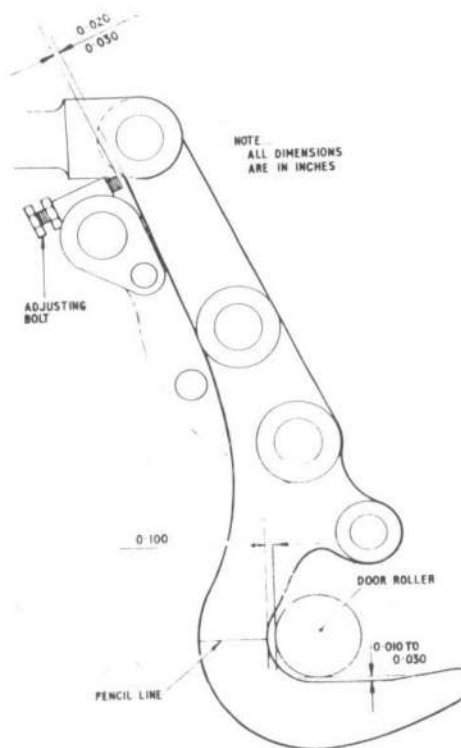

Fig.7. Wheel-well door latch hook clearances
(10) Adjust the door roller to produce the 0.010 to 0.030 in. clearance (fig.7) as follows:-
◀(11) Adjust the latch-hook adjusting bolt (fig.7) to produce the 0.10 in. clearance as follows:- ▶
(a) Scribe a pencil line across the face of the hook (fig.7).
(j) Set the adjusting bolt at the top of the door hook (fig.7) to obtain a clearance of 0.02 to 0.03 in. between the bolt and the hook.